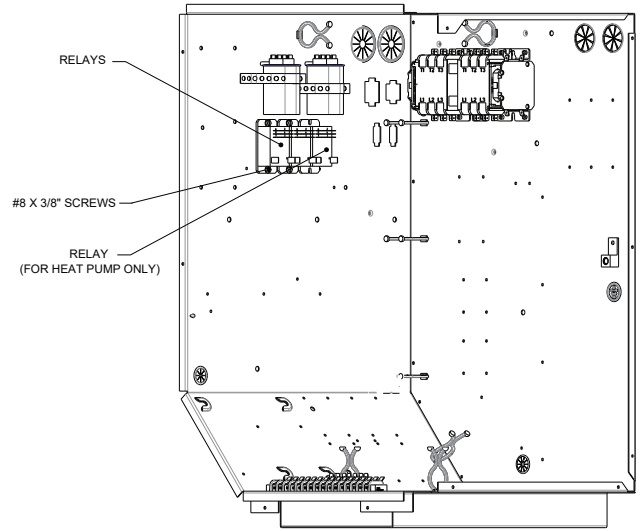

FIGURE 22
3. Attach the relays to the Control box location as shown in Figure 22.